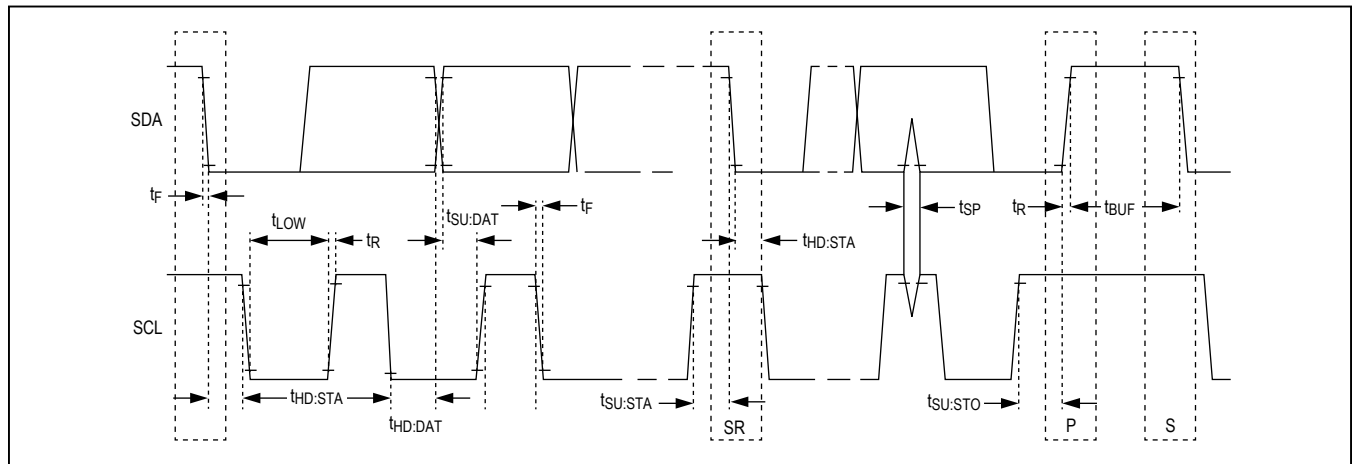

Figure 1. Timing Diagram
**Note 9:** See the timing diagram (Figure 1). All timing is referenced to  $0.9 \times V_{DD}$  and  $0.1 \times V_{DD}$ .